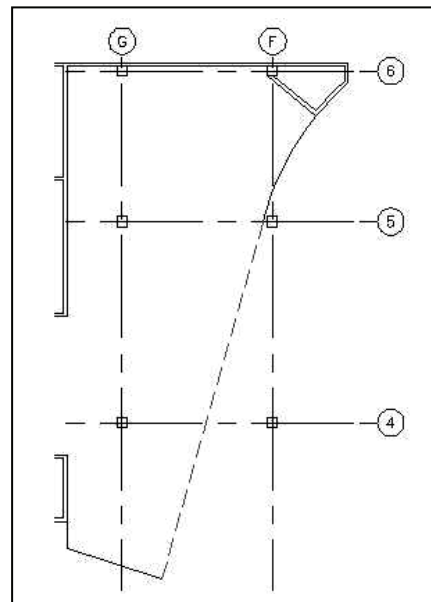

FIGURE 4-2.4B Drawing last main line
- f. Trim the curved line at grid 5 and then draw the longer angled line by “connecting-the-dots”; see Figure 4-2.4b.